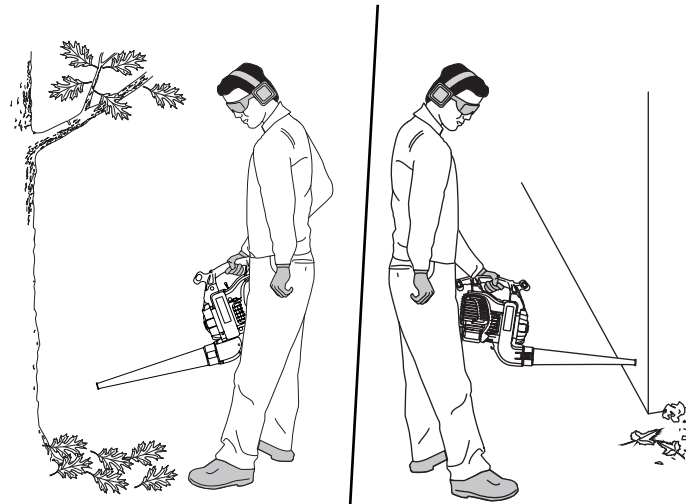

Fig. 18
- 1 Use the blower for trees, shrubs, flower beds and hard-to-clean areas (Fig. 18).
2. Use the unit around buildings and for other normal cleaning procedures (Fig. 18).